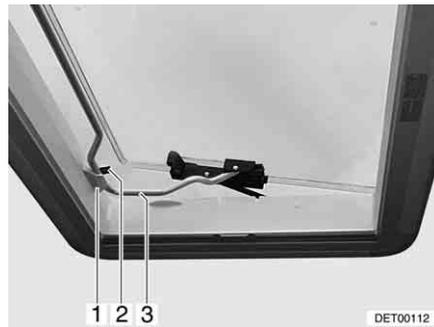

Fig. 69 Heki skylight in ventilation position 2
- Insert the bar (Fig. 69,3) into the holder (Fig. 69,1).
- Place the lever (Fig. 69,2) over the bar.